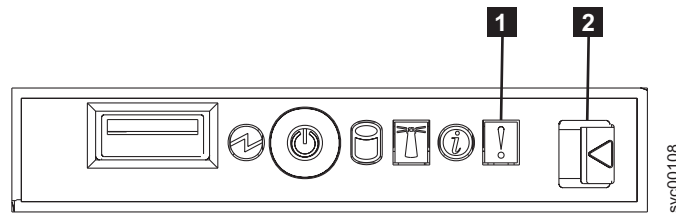

Figure 158. SAN Volume Controller 2145-8F4 operator-information panel
5. Press the operator-information panel release latch (2 in Figure 158 on page 173) and slide the operator-information panel away from the SAN Volume